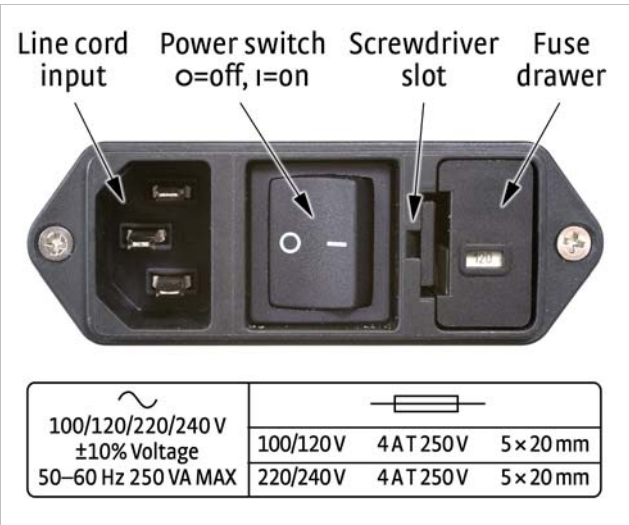

FIGURE 8-2 Power fuse access
1. Identify the line input assembly on the instrument rear panel. See FIGURE 8-2.
2. Turn the line power switch OFF (O).
11. Turn the line power switch On (I) Refer to FIGURE 8-2.
1. Locate line input assembly on the instrument rear panel. See Figure 8-2.
2. Turn power switch Off (O).